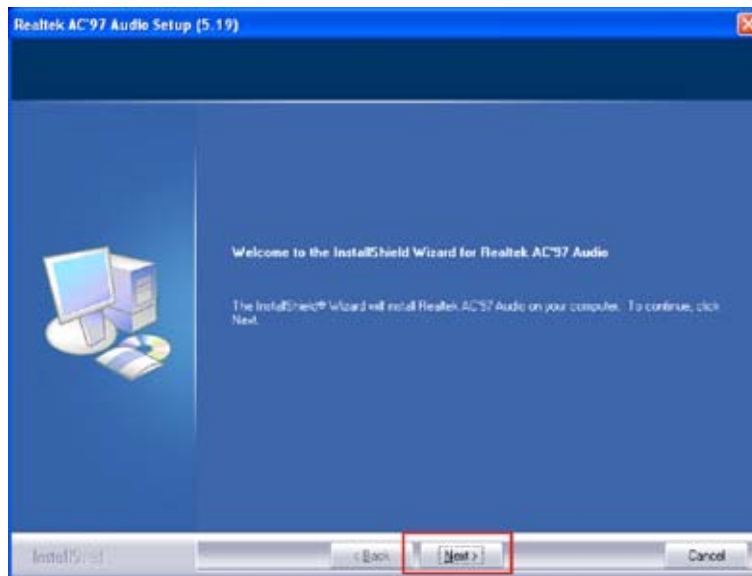

Figure 7-22: AC’97 Driver Installation Welcome Screen
Step 50: The AC’97 Driver Installation screen in Figure 7-22 appears.